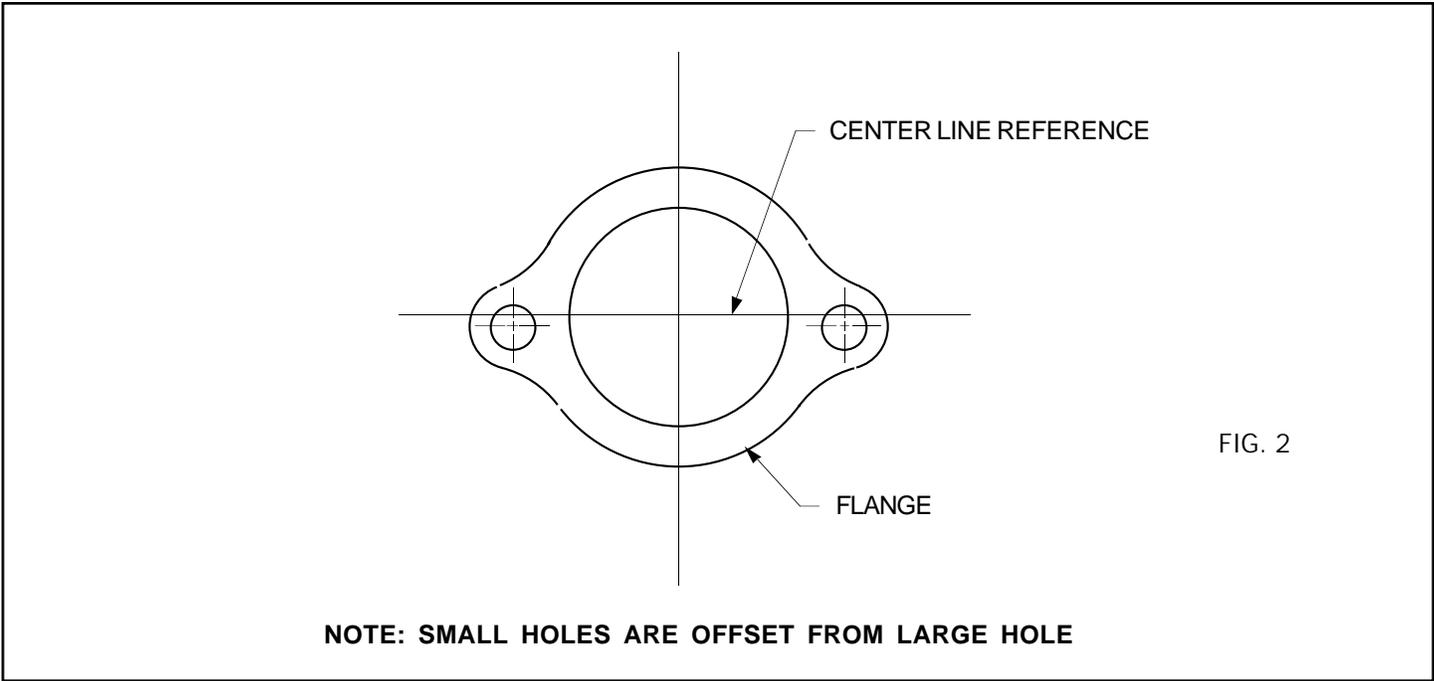

FIG. 2
4. Mount the front (#H230) and rear (#H231) head pipes to the cylinder head, using the stock washers and nuts. Leave the nuts loose at this time. **Note: The two smaller holes in the header flanges are offset from the large hole. If the small holes do not align with studs at the exhaust port, spin the flange on the pipe one half of a turn and try again. Refer to figure. 2.**